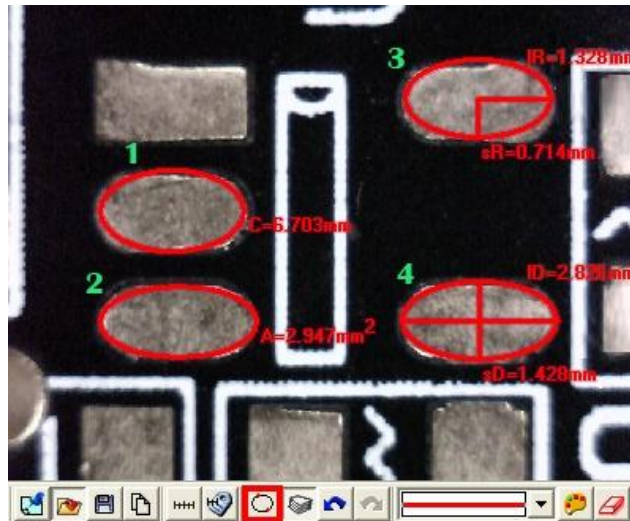

Fig 5-67 Oval
- (4) Oval: Measure an oval circle and use . Firstly choose Fig.5-67 Scale information setting dialog. To point any dot on an oval, pressing the left mouse button, and drag to fit the oval on an observation object. Same methods as Circle to be measured for 2 Points Circle and 3 Points Circle, 1st oval C=6.703m, 2nd oval A=2.947mm², 3rd oval: IR=1.328mm, sR=0.714mm, 4th oval ID=2.826mm, sD=1.428mm.